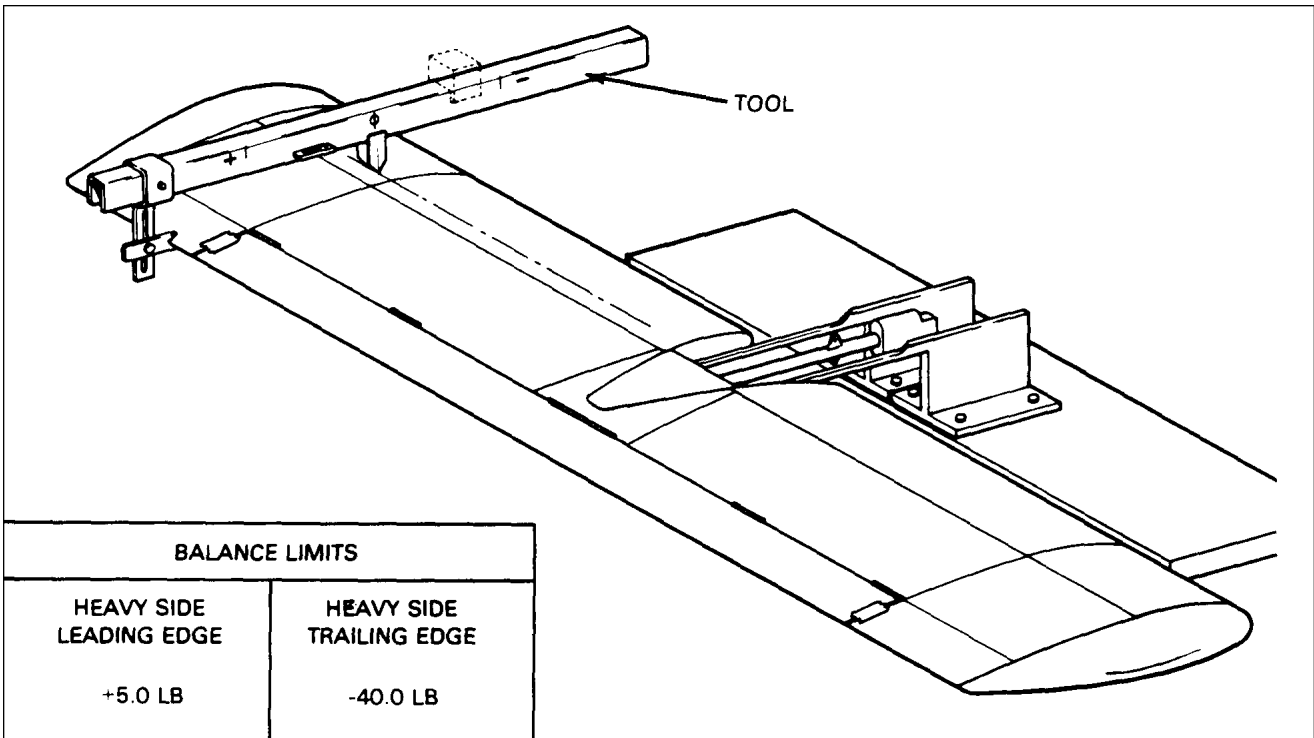
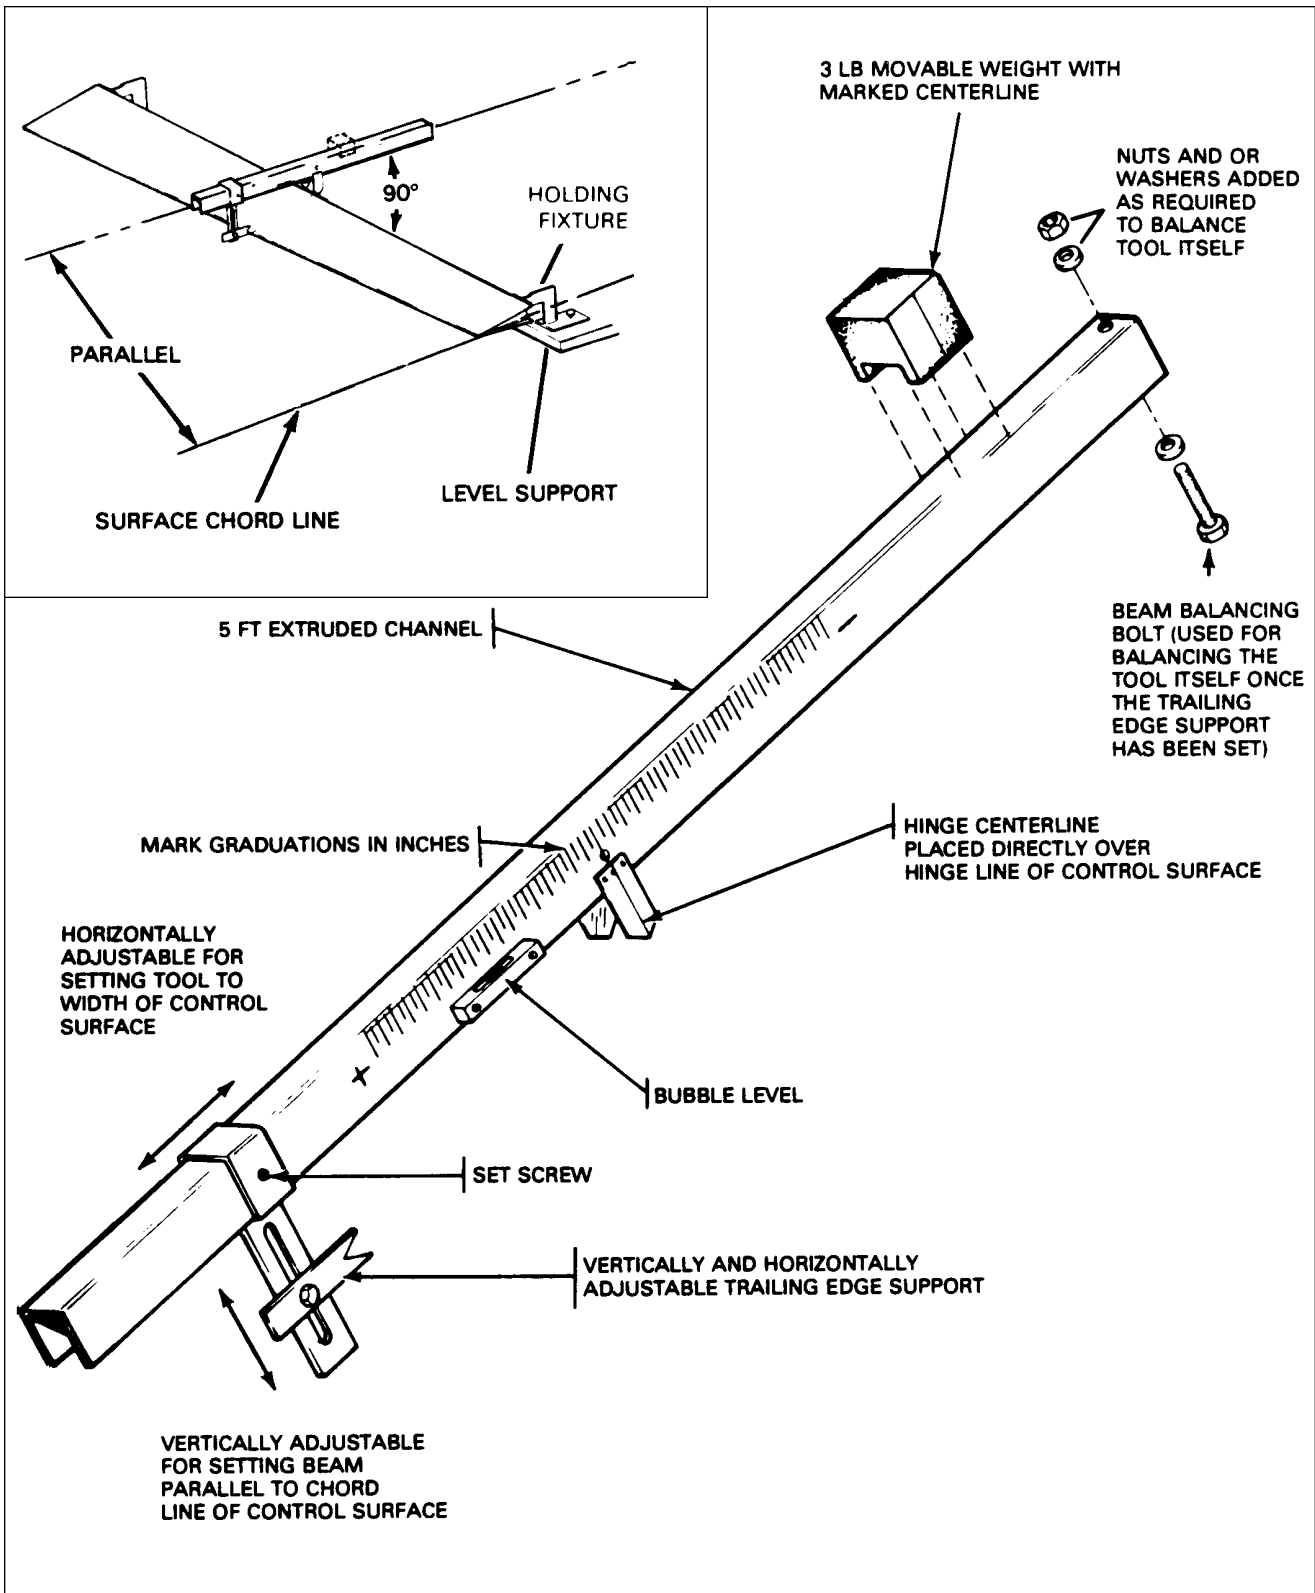
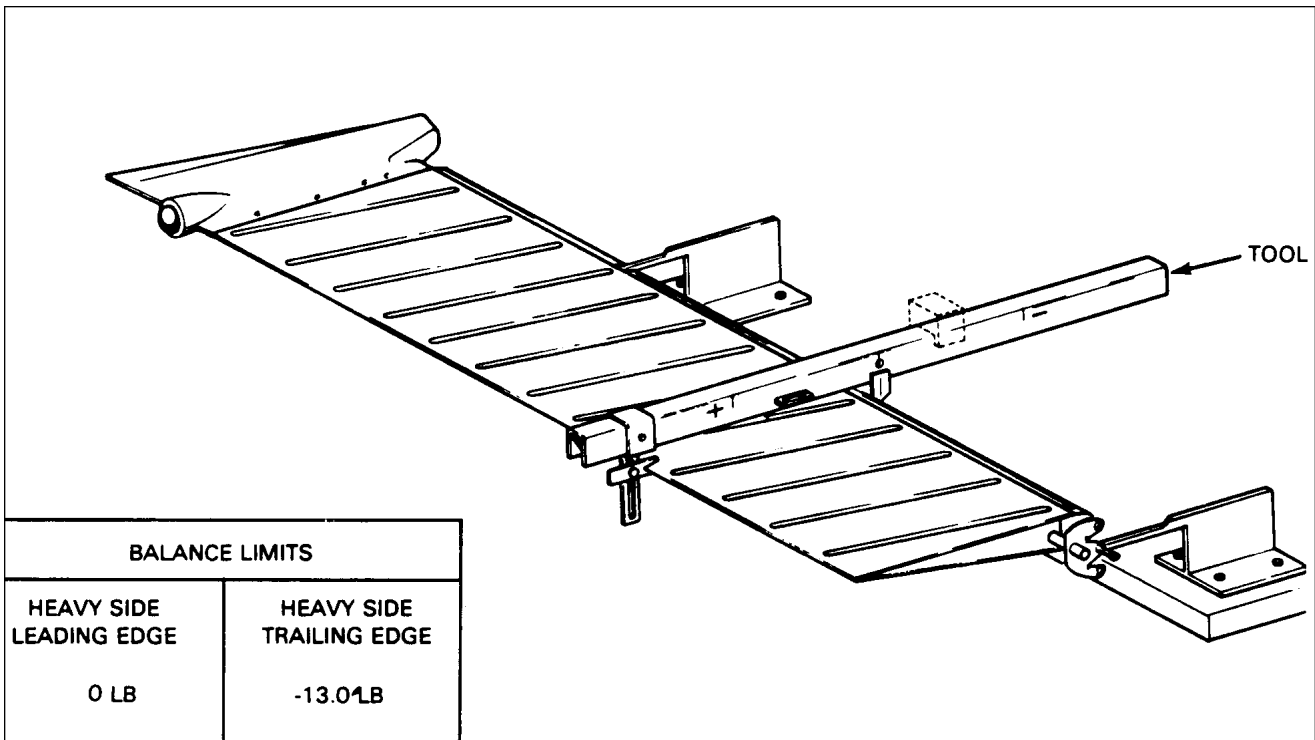

Figure 55-3. Stabilizer Balance
Figure 55-4. Control Surface Balancing Tool
Figure 55-5. Rudder Balance
Balancing must be done using a suitable tool capable of measuring unbalance in inch-pounds from the centerline of the control surface hinge pin. See the tool configuration in Figure 55-4. Other tool configurations may be used if accuracy is maintained and recalibration capability is provided. The tool shown in Figure 55-4 may be calibrated by placing it on the control surface to be balanced with the balance points over the control surface hinge centerline and balance bar parallel to cord line. Position trailing edge support to align tool with the control surface cord line and secure in this position. Remove tool without disturbing trailing edge support. Balance tool by adding weight to the light end as required. (The movable weight must be at the centerline.) Place tool on the control surface perpendicular to hinge centerline per Figures 55-3 and 55-5. Read scale when bubble level has been centered by adjustment of the movable weight.
2. Balancing Stabilator (Refer to Figure 55-3.)
To balance stabilator, assembly must be complete including trim tab, the tab push rod and end bearing, stabilator tips, and all attaching screws. Before balancing, tape trim tab in neutral position with a small piece of tape. Place complete assembly on knife edge supports in a draft free area allowing unrestricted movement. Place tool on stabilator with beam perpendicular to hinge centerline. Do not place tool on trim tab. Calibrate tool per balancing equipment. Read scale when bubble level has been centered by adjustment of the movable weight and determine static balance limit. If static balance is not per limits in Figure 55-3, proceed as follows:
C. BALANCING RUDDER. (Refer to Figure 55-5.)
To balance rudder, assembly must be complete including tip assembly with all attaching screws and position light wiring. Place complete assembly horizontally on knife edge supports in a draft free area that allowing unrestricted movement. Place tool on rudder with beam perpendicular to hinge centerline. Calibrate tool as per Figure 55-4. Read scale when bubble level has been centered by adjustment of the movable weight and determine static balance limit. If static balance is not per limits in Figure 55-5, proceed as follows:
A non-adjustable mass balance weight is moulded in the nose of rudder tip. All rudders must be maintained within static balance weights per in Figure 55-5.